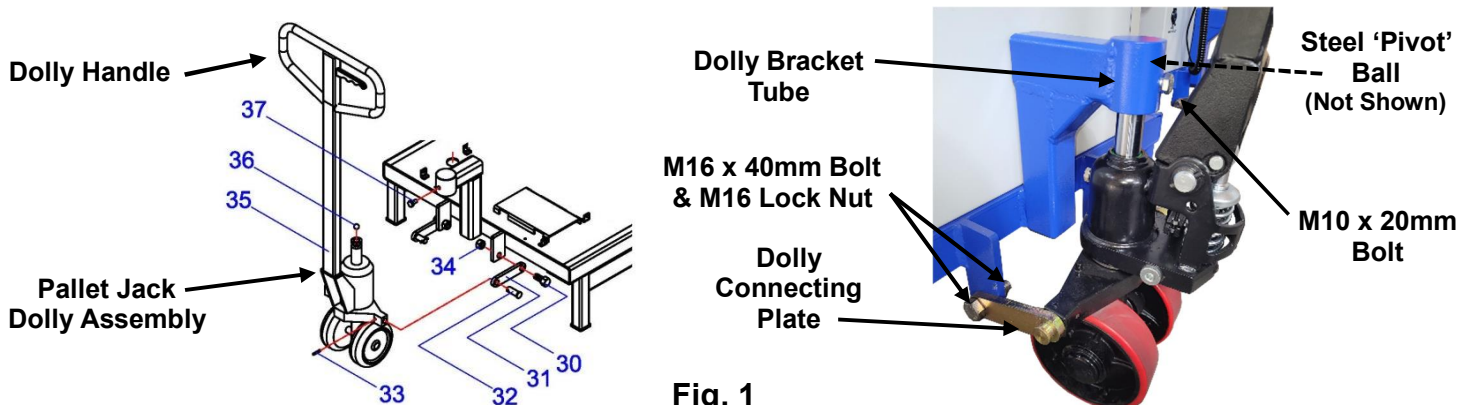

Fig. 1
- 1) Carefully position the **pallet jack dolly assembly** to brackets at the end of the lift table base. Place steel pivot ball on the top of piston rod and insert the rod into the **dolly bracket tube**. Secure piston rod to dolly bracket tube using **M10 x 20mm bolt**, Fig 1.